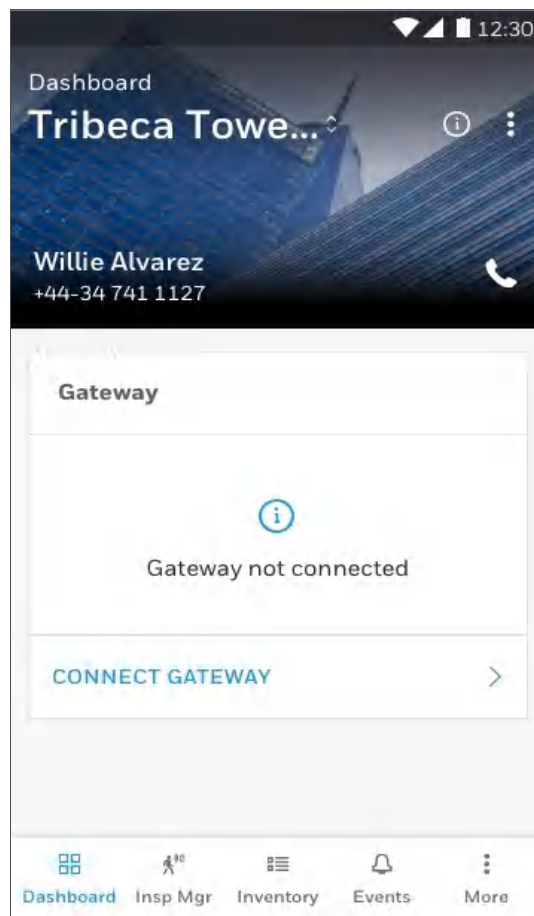

Figure 4.2: Building Details Page
11. To commission the gateway, tap on **CONNECT GATEWAY** and follow the on-screen instructions (see Figure 4.2).